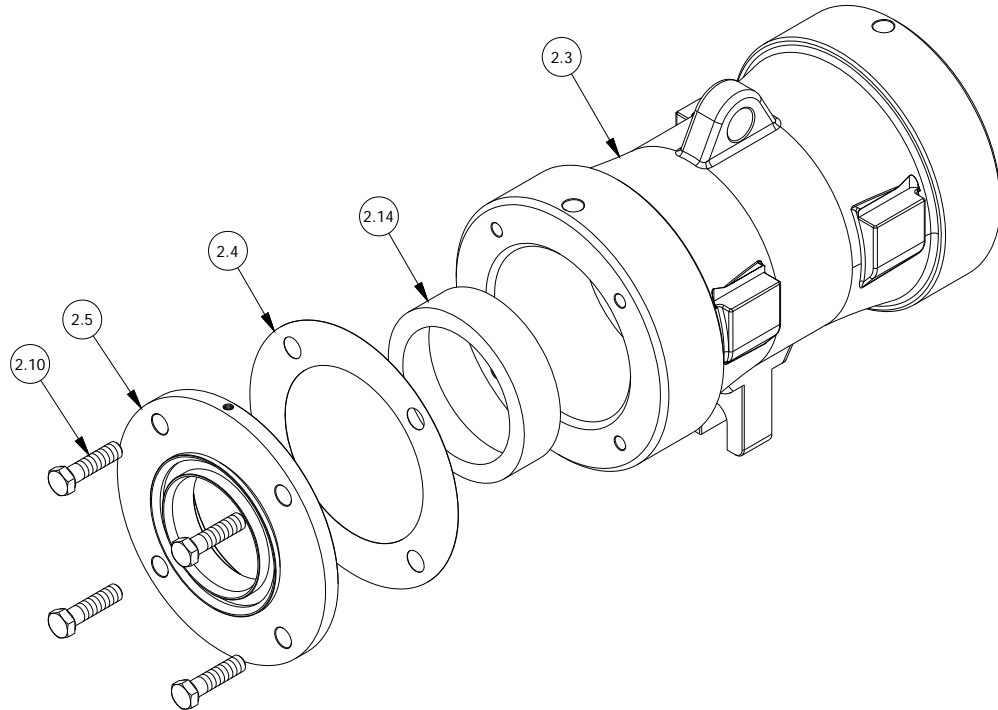

Fig 2.
7. Insert Bearing Cup of Bearing(2.14) with the small I.D. facing towards the outside of the Bearing Housing(2.3). Using a rubber mallet tap Bearing Cup into Bearing Housing(2.3) till the Bearing Cup has been installed just past the lip of the Bearing Housing(2.3) (See Fig 2.)
8. Place a 0.018”-0.020” Shim(2.4) onto Bearing Cover(2.5) and place assembled components into position on Bearing Housing (2.3).(See Fig 2.)